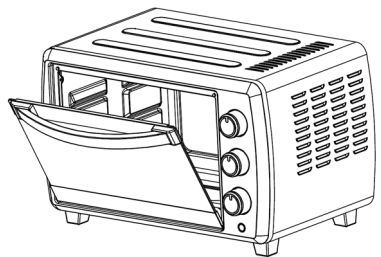

Fig. 5
8. If grilling or toasting leave the oven door ajar (fig. 5).